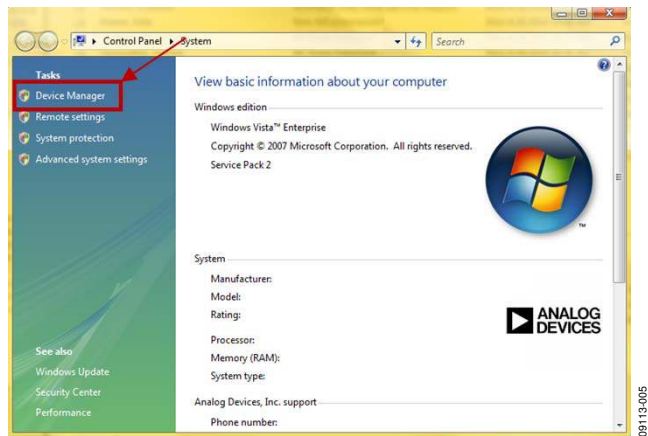

Figure 5. Computer Properties
1. From the **Start** menu, right click **Computer** and select **Properties**. The window shown in Figure 5 should open.